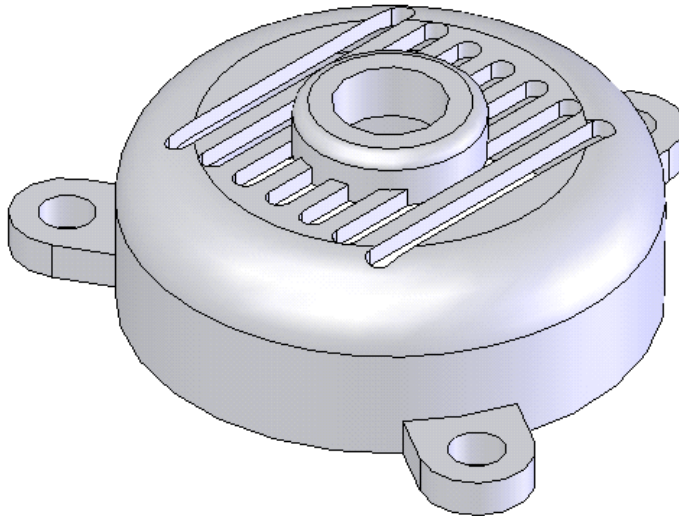
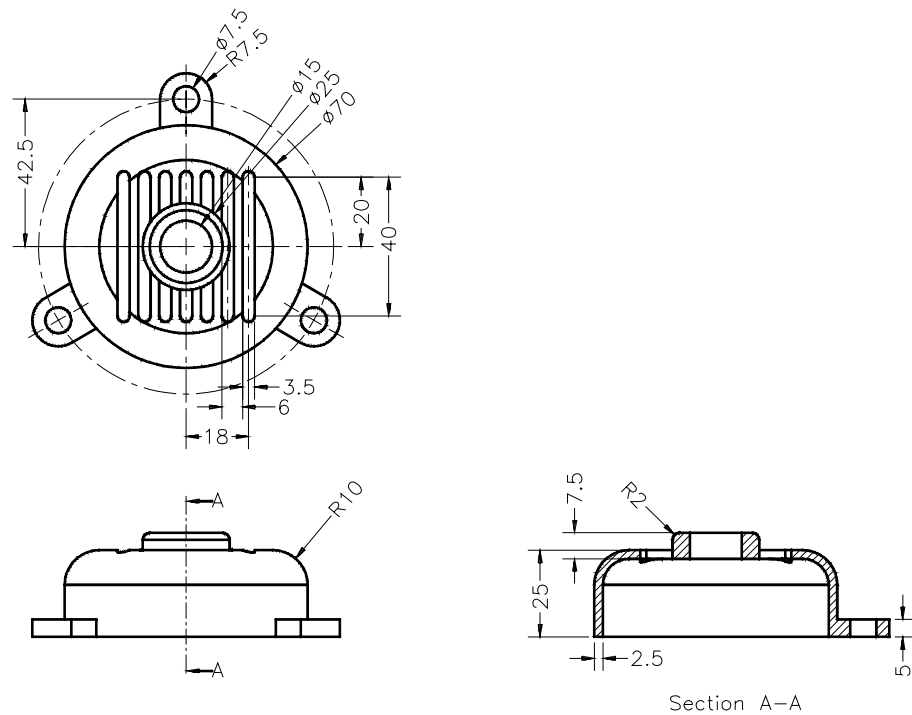
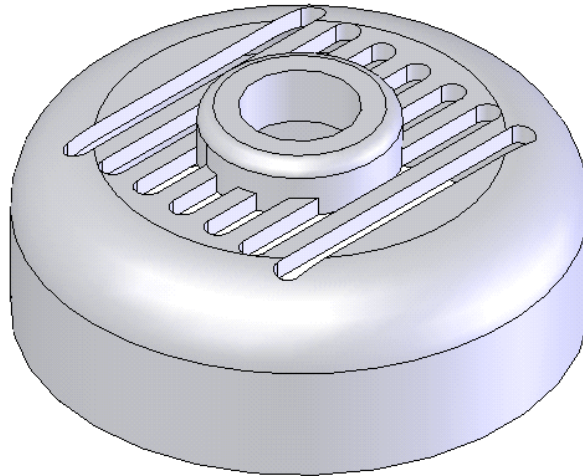

Figure 8-64 Model for Tutorial 3
Figure 8-65 Views and dimensions of the model for Tutorial 3
Figure 8-74 Model after creating other features.
In this tutorial you will create the model shown in Figure 8-64. While creating the model you will also perform some editing operations to the model. The views and dimensions of the model are displayed in Figure 8-65. (Expected time: 45min)
- Unsuppress the suppressed features and create the remaining features of the model. refer to Figures 8-74 and 8-75.
The pattern created is not the same as required, refer to Figure 8-65. As a result you need to edit the pattern feature.
6. Create the other features of the model. For dimensions, refer to Figure 8-65. The model after creating the other features is shown in Figure 8-74.